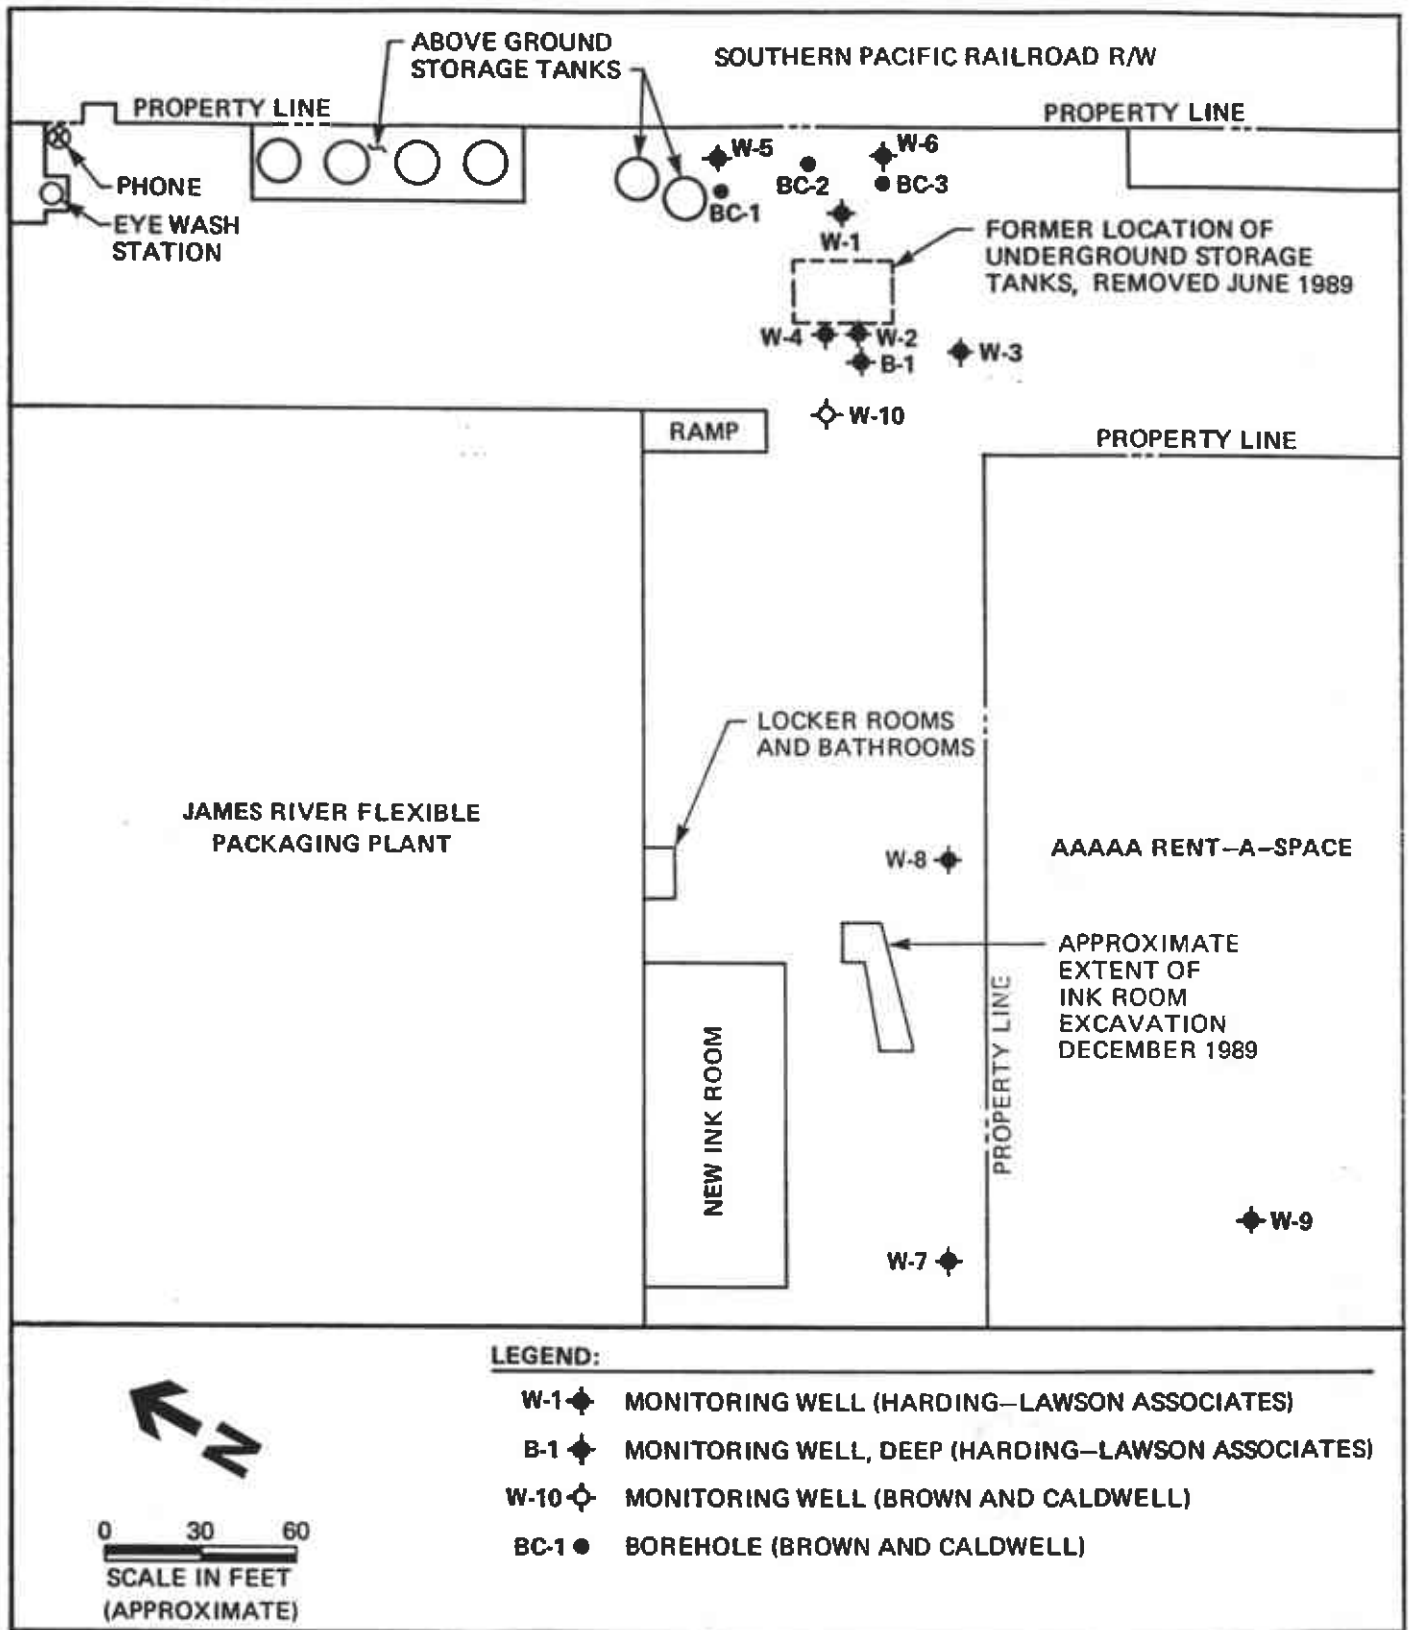

Figure 2 Monitoring Well and Borehole Location Site Plan
2. A facility map showing the previous location of Monitoring Well W-2 (Figure 2).